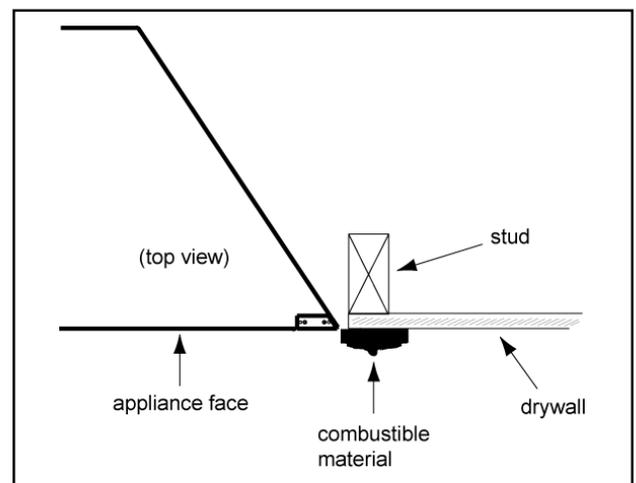

Figure 7 - Combustible Finishing Material
2. Combustible material **may** cover the black outer surface by ½" on the 110/120V appliances only. See Figures 5-6. Combustible material **may not** cover the black outer surface on 208/220/240V appliances. See Figure 7. **Grilles and air openings cannot be covered in any circumstances.**